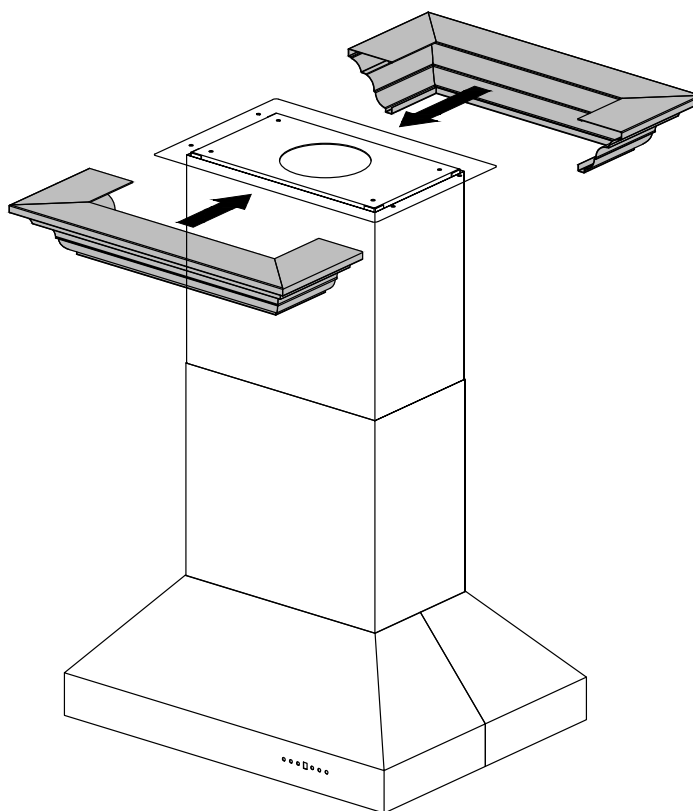

Figure 3
3. Extend the chimney up to the transformer. Slide the crown molding onto the crown bracket and secure into place. The crown should cover the gap. Ensure that it installs properly and is level. *Figure 3*